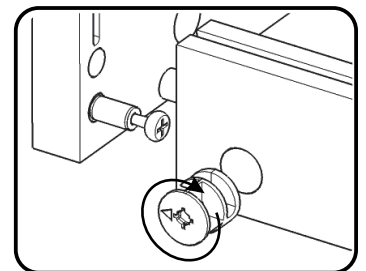

Figure 2
Attach Back Rail (I) to Side Panel (B) with Cam Lock. (See Figure 2)